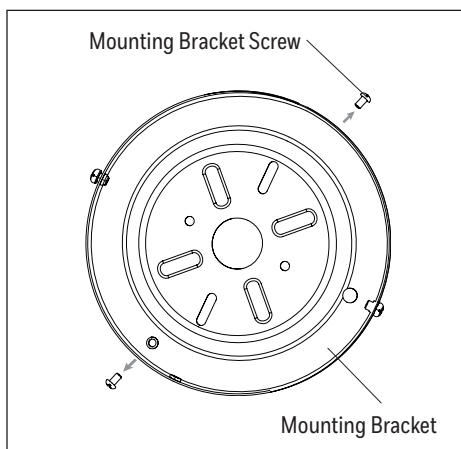

Figure 2.1
1. Loosen all four mounting bracket screws, then completely remove two mounting bracket screws from opposite sides of the mounting bracket (Figure 2.1).